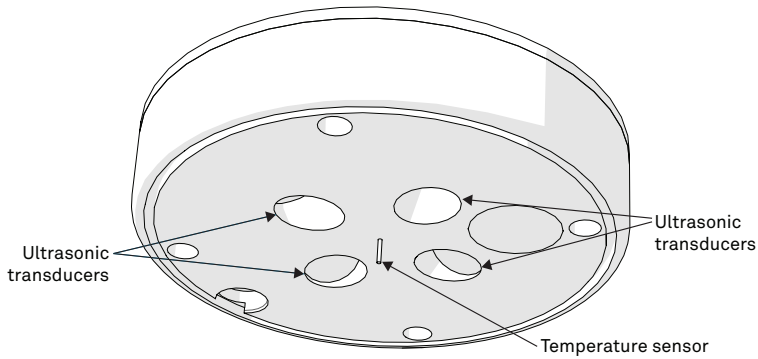

Figure 12 Temperature needle and ultrasonic transducers
- **DO NOT** touch the temperature sensor needle (Figure 12).
- Avoid more than light pressure on the sonic transducers (Figure 12).
2. Make sure nothing is obscuring the temperature sensor or the sonic transducers shown in Figure 12 (cobwebs, leaves, wasp nests, etc.).
- c. Ultrasonic transducer openings (Figure 12)
NOTE: Do not allow water to enter the ultrasonic sensors (Figure 12). Water may corrode the metal parts inside the sensors and ruin them. Do not touch the temperature sensor when cleaning because it is very delicate and can be damaged if pushed into the ATMOS 41 body.